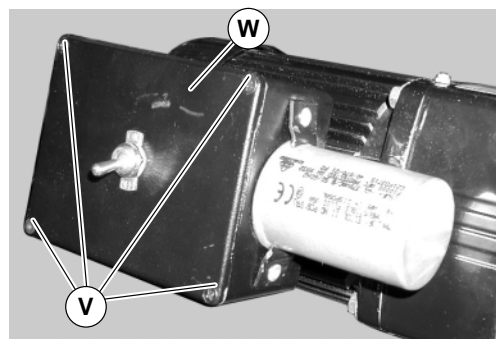

Figure 13
- a. Loosen terminal box screws (V of Figure 13) and remove cover (W).